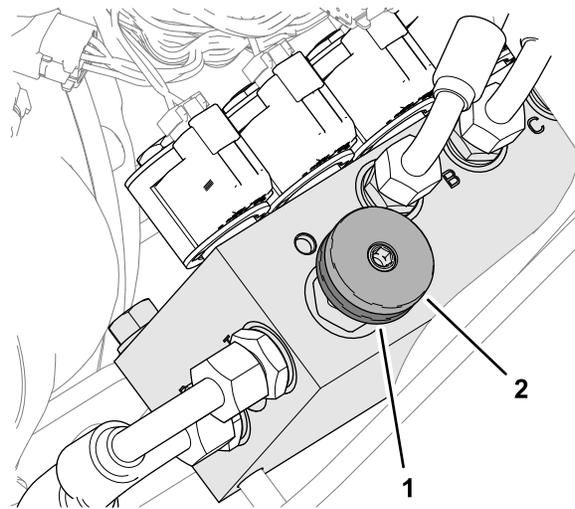

Figure 31
To engage weight transfer: The amount of weight transfer can be varied to suit operating conditions by rotating the weight transfer hand wheel (Figure 31) as follows:
1. Release the valve locknut 1/2 turn counterclockwise and hold (Figure 31).
2. Rotate the valve hand wheel (Figure 31) counterclockwise to reduce weight transfer or clockwise to increase weight transfer.